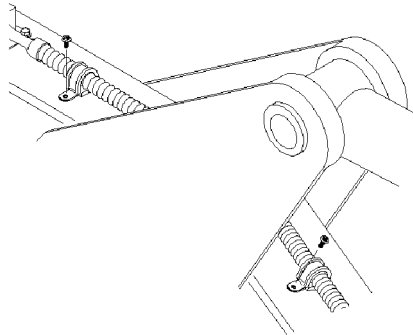

Figure 11
- Use 'P' clips fastened with POP Rivets, to fix the conduit securely back along the arm, following the hydraulic pipes back onto the vehicle body (fig. 11) to where the junction box will be mounted.